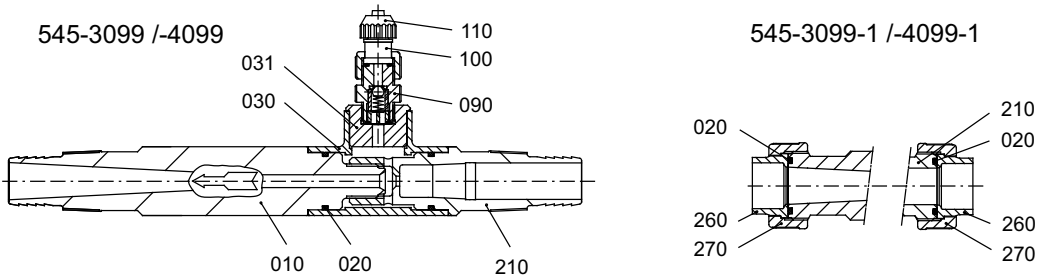

fig. 11 Assembly diagram, 545-3099/-4099 and -3099-1/-4099-1 injectors
- Remove the union piece (pos. 100, see fig. 11).
- Unscrew the ball check (pos. 090, see fig. 11).
- Screw on the union piece (pos. 100, see fig. 11).